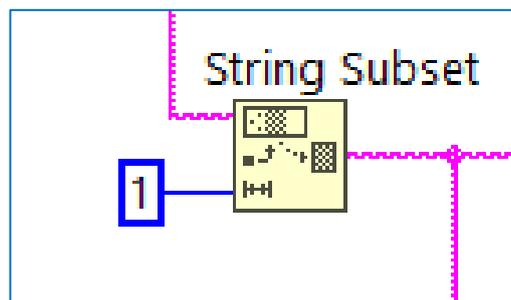

Figure 5. LabView String Subset icon
2.- Up to now, you are getting a string of characters on your String Indicator. Use the “String Subset” function (Figure 5) on your block diagram to get one string at the time (Char). Then, compare this result with the chart “a” to turn the LED on.